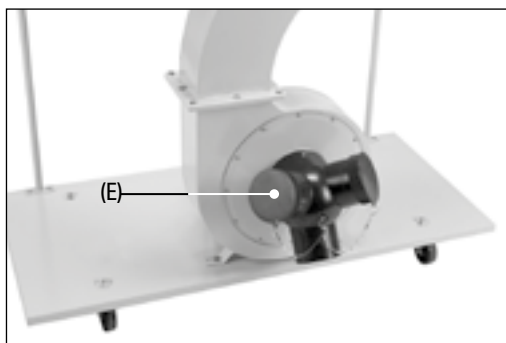

Fig. 5
5. Remove the M5 x 8mm screw (P) from the circular opening on the motor, then use it to attach the extractor inlet (E) (Fig. 5).